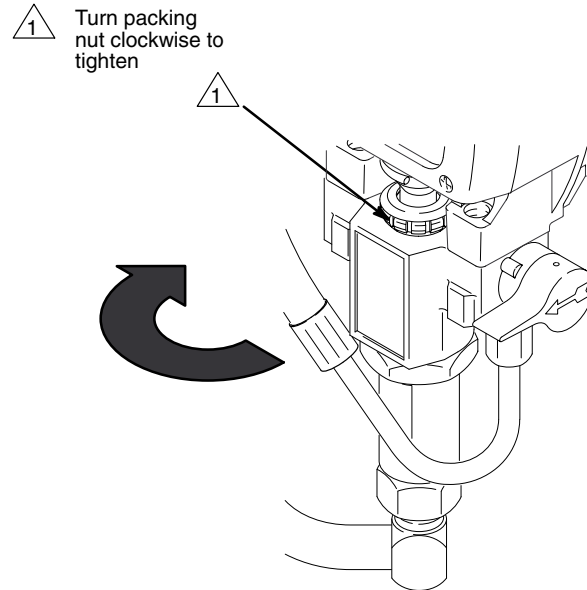

Fig. 8
2. **Tighten the packing nut/wet-cup just enough to stop leakage.** Over-tightening causes binding and excessive packing wear. Use a round punch or brass rod and a light hammer to adjust the nut. See Fig. 8.